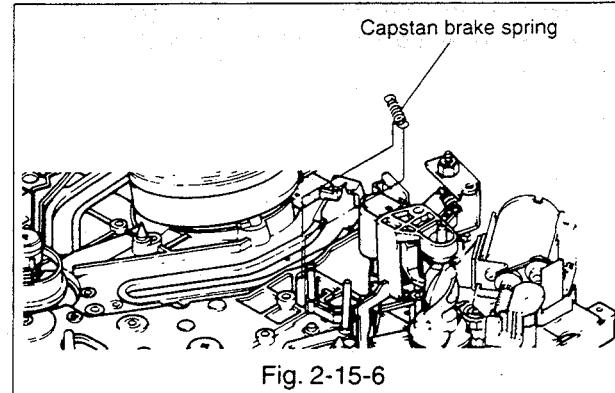

Fig. 2-15-6
O. Fasten the capstan brake spring to the capstan brake and the loading gear arm from the top side of the deck. (Refer to Fig. 2-15-6.)
- B. Detach the capstan brake spring from the capstan brake and the loading gear arm.(Refer to Fig. 2-15-6.)